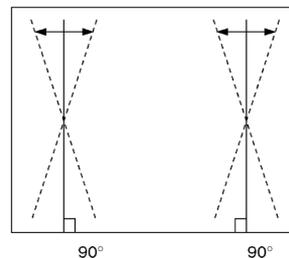

Fig. 9
2. Adjust the vertical line to straight line of both side vertical line in Fig. 9 by Trapezoid (VGA).